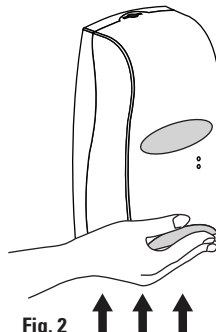

Fig. 2
2. Push dispenser up firmly. **See Figure 2**
3. Install three D size batteries according to proper polarity. **See Figure 2**
3. Insert refill into dispenser with pump facing down. **See Figure 2**